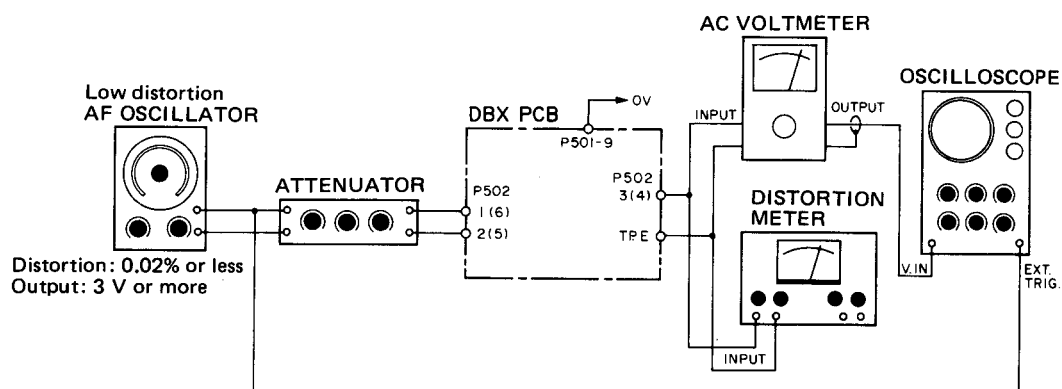

Fig. 5-15
2. Make the Fig. 5-15 connections, then feed a 1 kHz/-8 dB (308 mV) input signal to the INPUT terminal. Adjust R55/R65 (DECODING LEVEL) so that AC voltmeter reads -8 dB (308 mV).
3. Check that when the input signal is 100 Hz/-8 dB (308 mV), then 10 kHz/-8 dB, the output signal from 3(4) terminal (OUTPUT) deviates by -1 dB $\pm$ 0.5 dB, then +5 dB $\pm$ 0.5 dB from -8 dB (reference), respectively.....so that output, as a voltage value, should be 652 mV to 731 mV for 100 Hz, and 1.30 V to 1.46 V for 10 kHz.